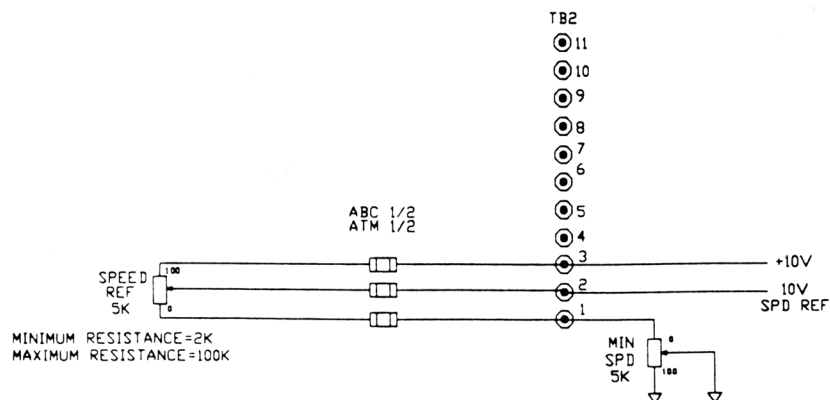

FIGURE 9. SIGNAL CONNECTION DIAGRAM, MOTOR SPEED POTENTIOMETER
9. If remote operator control and/or signal wiring is required, connect the controller as shown in the appropriate connection diagram (Figures 3 through 13). Figures 3 through 8 show operator control connections, and Figures 9 through 13 show signal connections.
10. The controller can be programmed for various applications by the removal (clipping with a wire cutter) of wire Jumpers (W1 - W6). For line starting, clip Jumper W1. To use an external Current (Torque) Reference Potentiometer, clip Jumper W6. If jumpers need to be removed, it is noted in the appropriate signal connection diagram (Figures 9 through 13). Refer to Figure 16 (page 31) for the location of Jumpers W1 - W6.